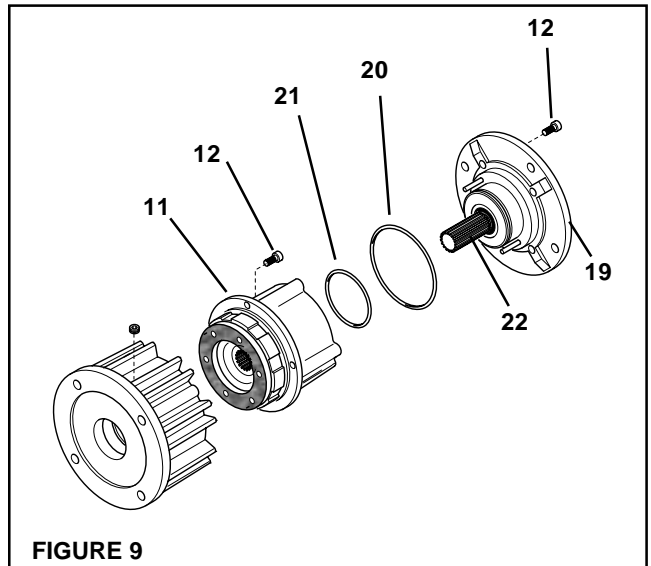

FIGURE 9
1. Remove the four Socket Head Cap Screws (Item 12) and separate the two halves of the FMCE (See Figure 9).
2. Remove the four Socket Head Cap Screws (Item 12) securing the Male Pilot (Item 19) to the Air Chamber (Item 11) (See Figure 9).
3. Remove the Male Pilot (Item 19) and Stub Shaft (Item 22) from the Air Chamber (Item 11) (See Figure 9).
4. Remove and discard the old O-ring Seals (Items 20 and 21) (See Figure 9).
38. Install the new O-ring Seals (Items 20 and 21) (See Figure 9).
39. Align the Dowel Pins (Item 16) in the Male Pilot (Item 19) with the holes in the Piston (Item 15) (See Figure 9).
41. Apply a drop of Loctite® 242 to the threads of four Socket Head Cap Screws (Item 12) (See Figure 9).
43. Apply a drop of Loctite® 242 to the threads of the remaining four Socket Head Cap Screws (Item 12) (See Figure 9).
44. Slide the Air Chamber (Item 11) into the Housing (Item 1) and install the four remaining Socket Head Cap Screws (Item 12) that secure the Air Chamber to the Housing (See Figure 9).
45. Tighten the four Socket Head Cap Screws (Item 12) that secure the Air Chamber (Item 11) to the Housing (Item 1) to the recommended torque (See Figure 9 and Table 6).